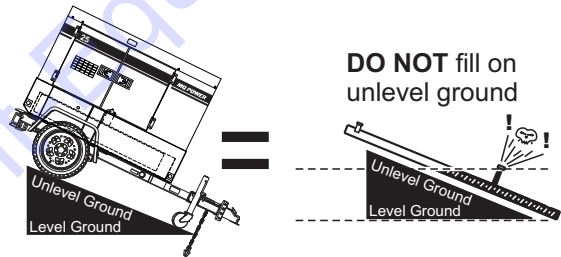

Figure 31. Only Fill On Level Ground
1. **Level Tanks** — Make sure fuel cells are level with the ground. Failure to do so will cause fuel to spill from the tank before reaching full capacity (Figure 31).